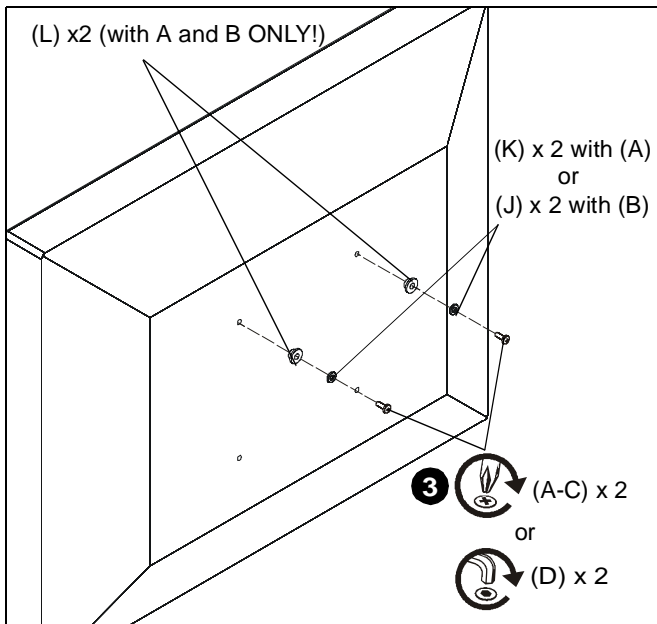

Figure 24
3. Install two selected screws (A-D) into upper two holes on back of display. (See Figure 24)
IMPORTANT ! : If using M4 or M5 screws (A or B), washer hardware (J, K and L) must be used to ensure tight fit into the faceplate holes! For M4 screws (A), use M4 washer (K) and shoulder washer (L). For M5 screws (B), use M5 washer (J) and shoulder washer (L). (See Figure 24)